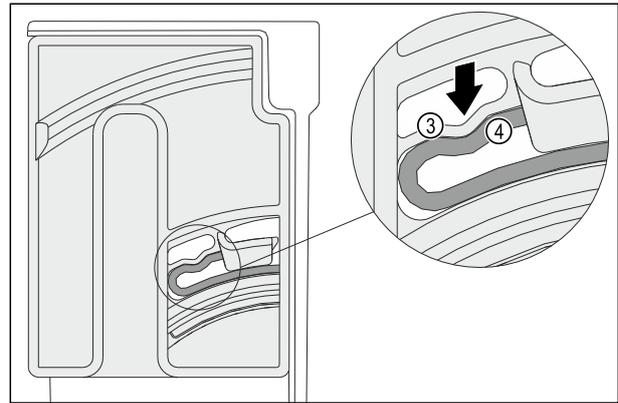

Fig. 101
- ▷ The elastic element Fig. 101 (3) of the turning unit audibly engages in the round shape of the rib Fig. 101 (4).